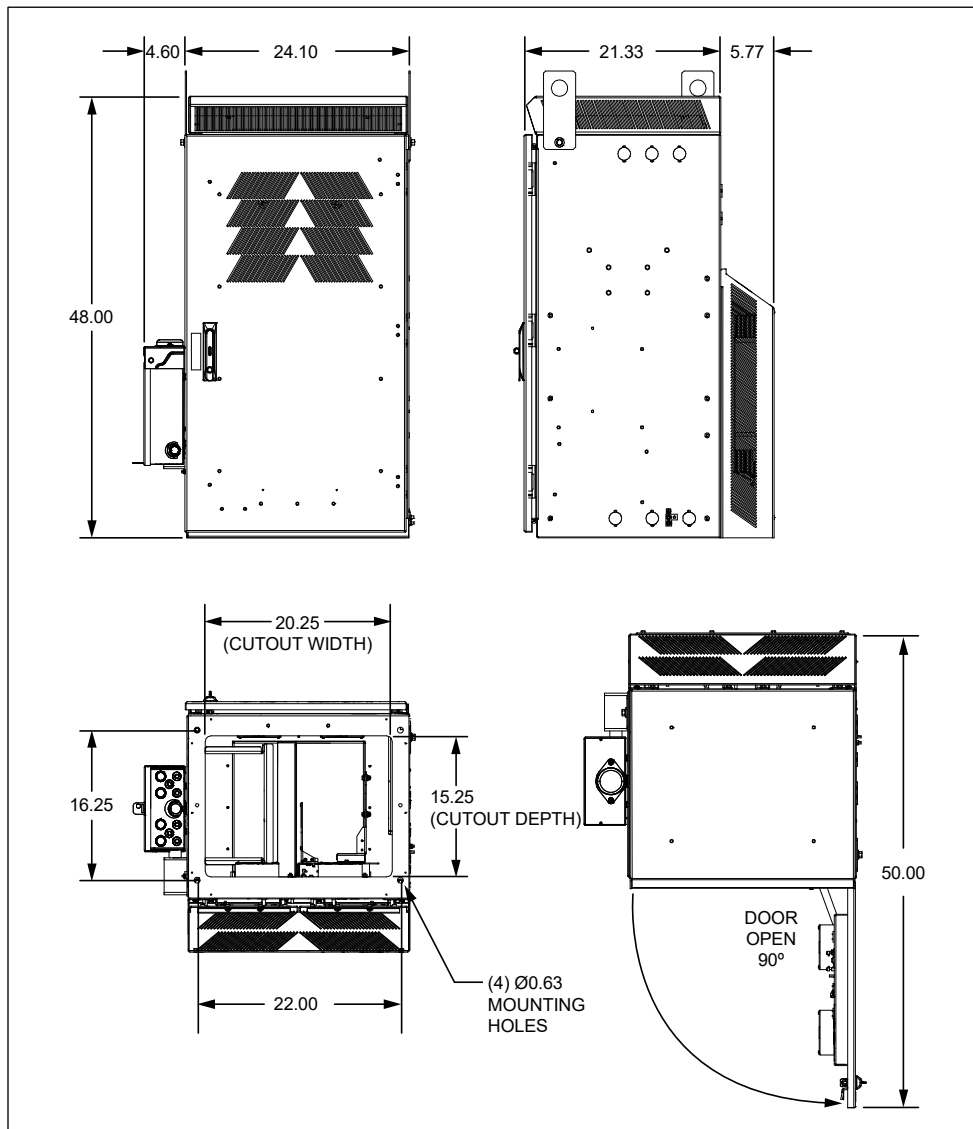
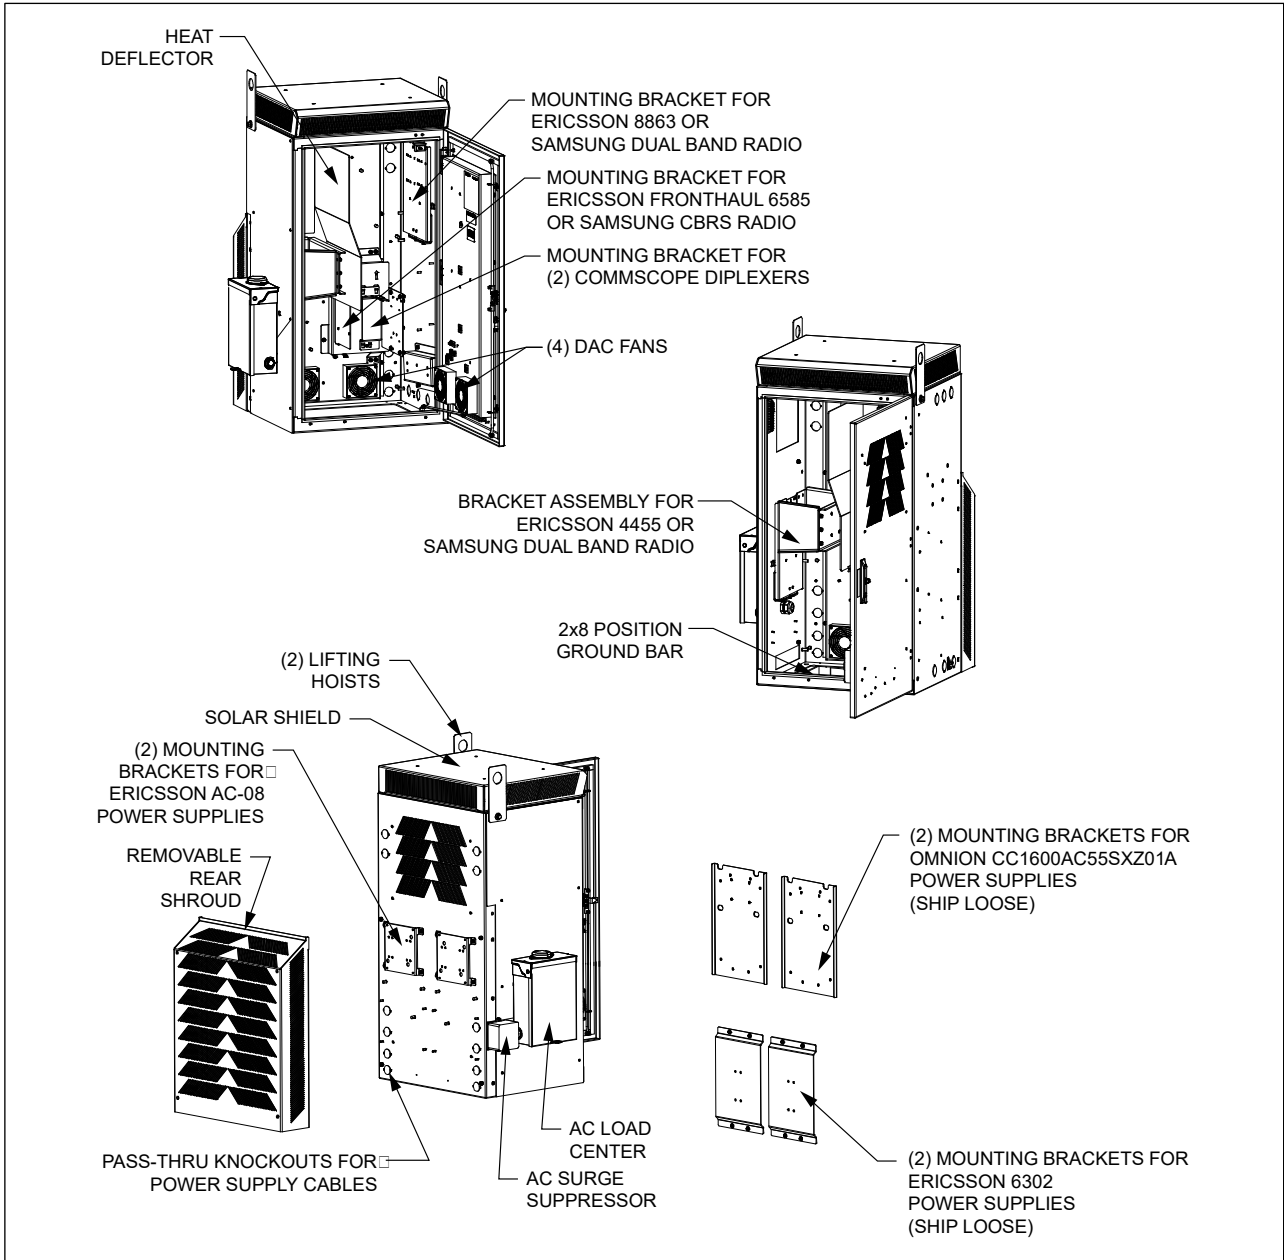

Figure 2 CUBE Dimensions (in inches)
Figure 3 CUBE Components
Figure 2 shows the CUBE dimensions. Figure 3 shows the main components of the CUBE.
- Figure 2 shows the required conduit openings and mounting hole dimensions for entering/mounting the bottom of the CUBE. Use these dimensions when designing the pad.